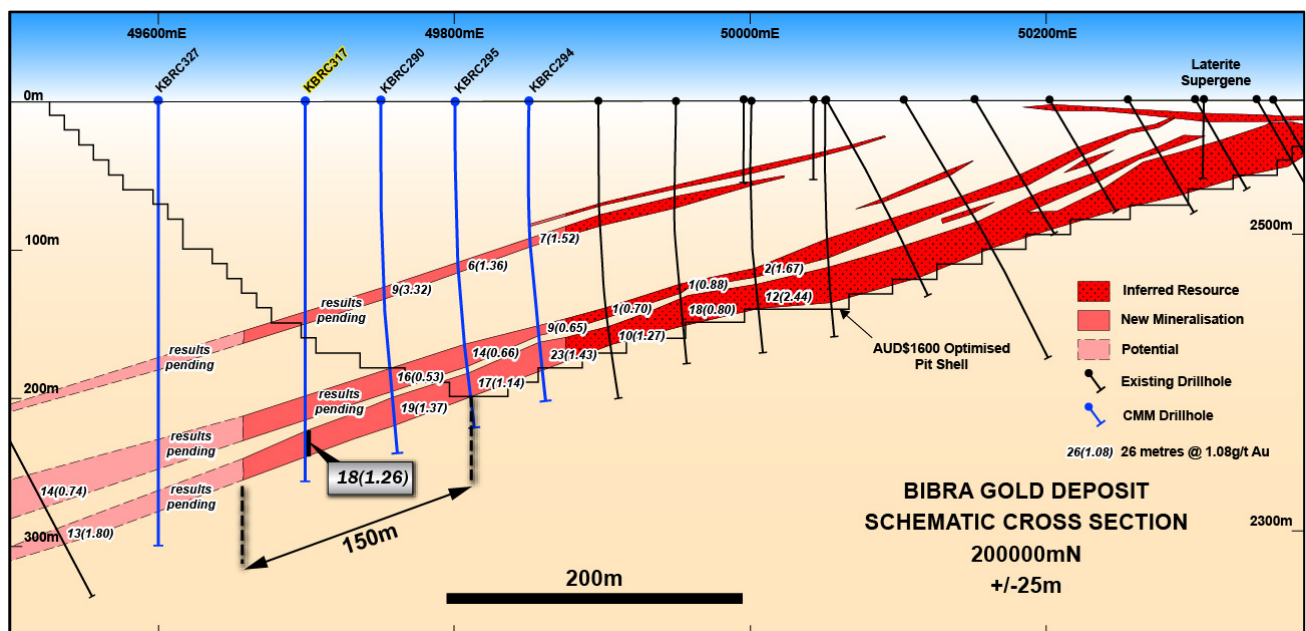

Figure 4: BIBRA GOLD DEPOSIT SCHEMATIC CROSS SECTION (200000N)
- Deeper mineralisation now extends beyond the current base of the 2012 optimised pit shell and is now expected to extend the resource into these areas (Figure 4);